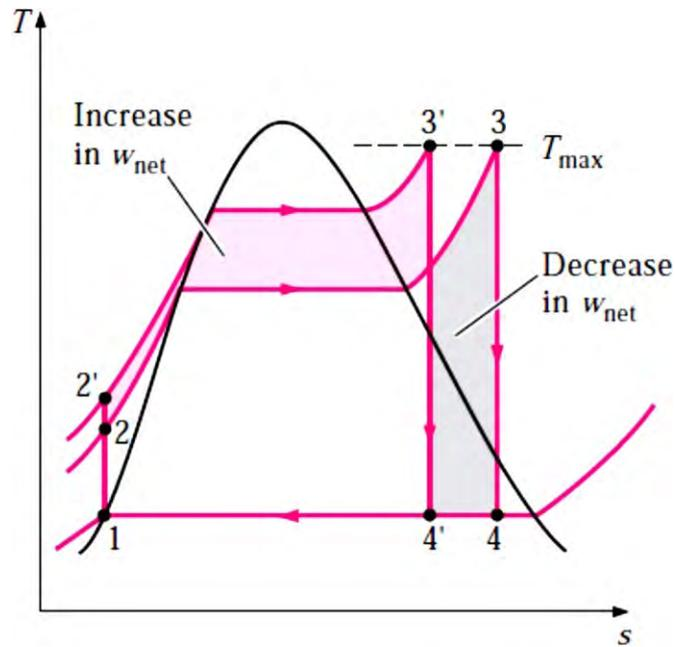

Fig. 6.3 Effect of boiler pressure on Rankine cycle performance
- The effect of **increasing the boiler pressure** on the performance of Rankine cycle is illustrated on a T-s diagram in Fig. 6.3.